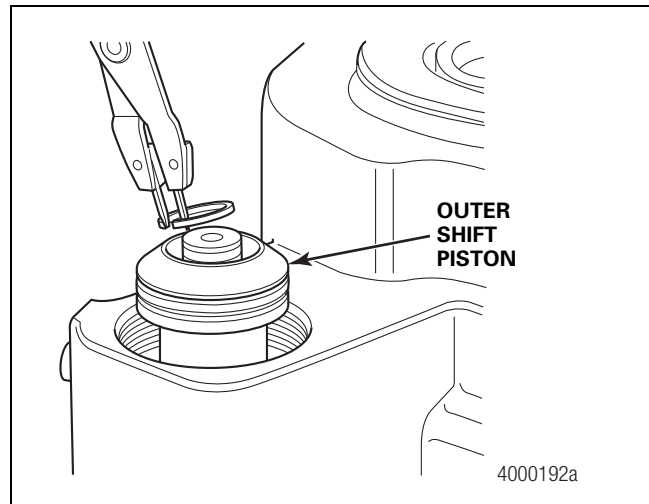

Figure 4.16
4. Remove the outer shift piston snap ring from the shift shaft. Remove the shift piston. Figure 4.16.